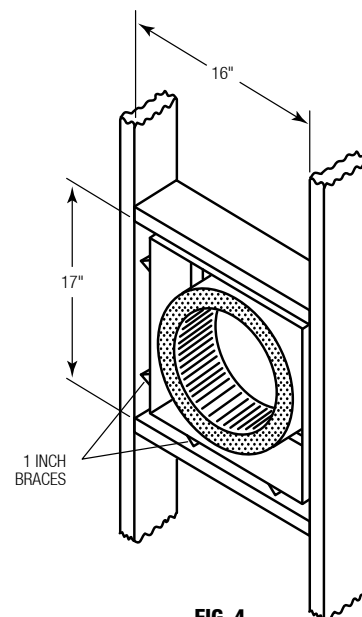

FIG. 4
Do not frame in until step #10, Fig. 4.
10. Appropriate framing and headers must be installed to insure a safe installation of the Saf-T Thimble. See Fig 4.